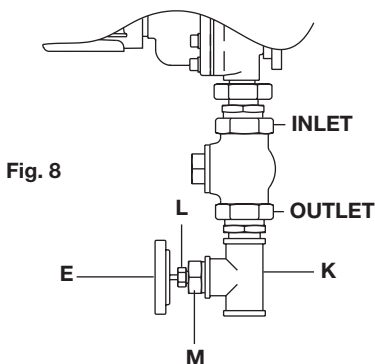

Fig. 8
The TCO1 must be installed with the end marked 'INLET' connected to the mixing valve and the end marked 'OUTLET' to the 'T' piece (K), see Figure 8. (These markings are stamped onto the hexagon end connections). The TCO1 is a safety device, if it is installed in reverse it will never be able to operate.
To connect the thermometer (E), (see Figure 8), screw the reducing bush (M) into the top of the 'T' piece (K); push the thermometer (E) into the pocket (L) and lock in place with the grub screw; tighten the pocket (L) into the reducing bush (M). The hose should be connected to the outlet of the 'T' piece (K) using the union on the hose. The hose may then be coiled onto the hose rack (if used). If using a self-retracting hose reel the hose will already be coiled and attached to the thermometer 'T' piece (K) using the hose union on its 2 m (6.5 ft) long connection hose (supplied with the self-retracting hose reel).